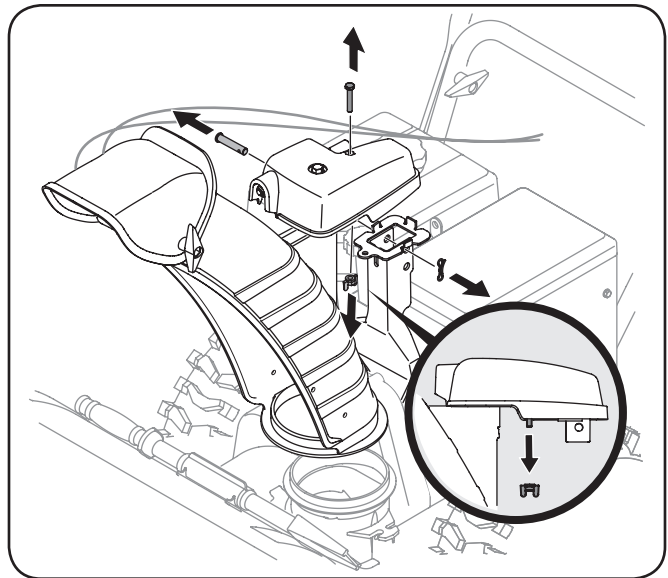

Figure 3-14
1. Remove wing nut and hex screw from chute control assembly and clevis pin and cotter pin from chute support bracket. Position the chute assembly (forward-facing) over the chute base. See Figure 3-14.